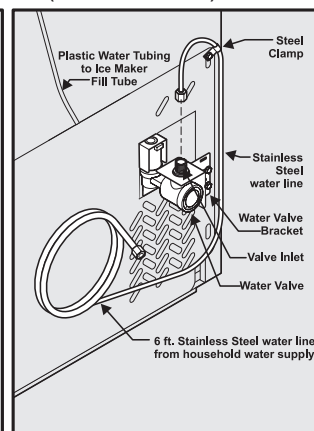

Figure 2
5. **If you use stainless steel tubing** - The nut and ferrule are already assembled on the tubing. Slide compression nut onto valve inlet and finger tighten compression nut onto valve. Tighten another half turn with a wrench; **DO NOT** over tighten. See Figure 2.